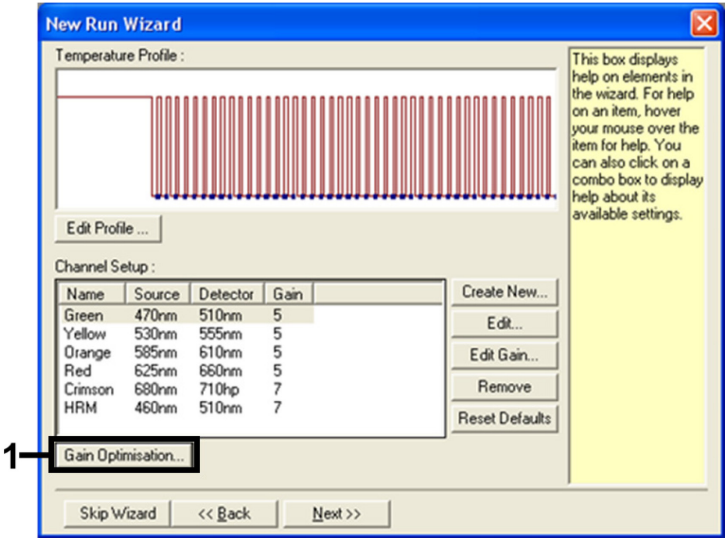

Figure 10. Gain optimization.
12. In the next dialog box, click “Gain Optimisation” (Figure 10).